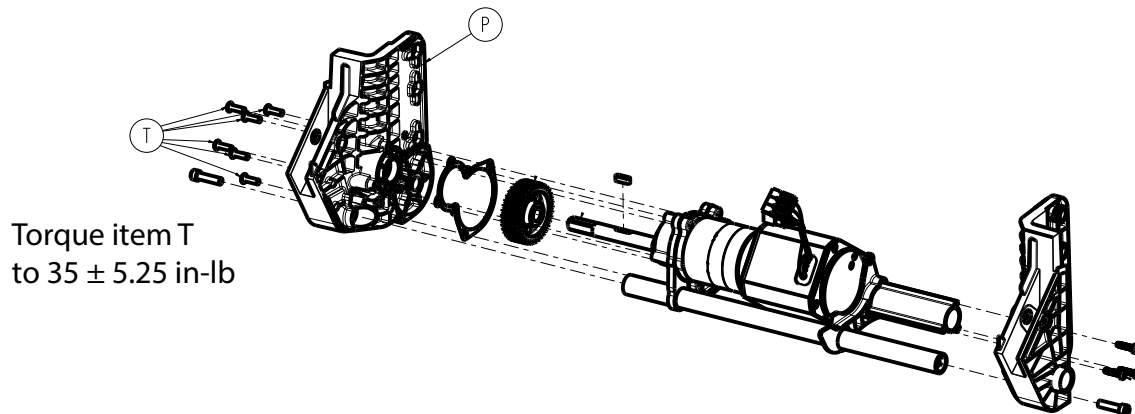

Figure 16 –
8. Using an impact driver and a 6" T25 Torx driver, remove the three button head cap screws (T) that secure the drive motor to the patient right upright assembly (P) (Figure 16). Discard the screws.
- Using a torque wrench, torque the button head cap screws (T) to  $35 \pm 5.25$  in-lb when you reinstall.